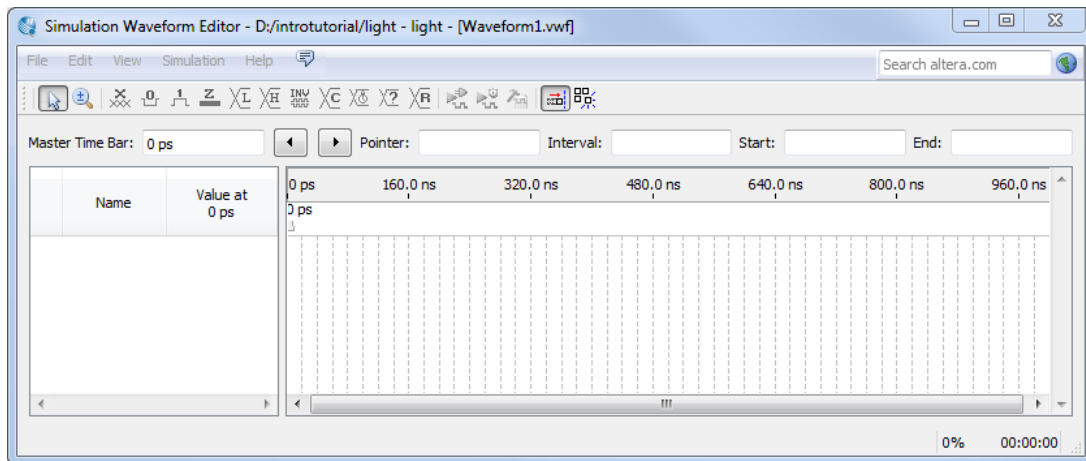
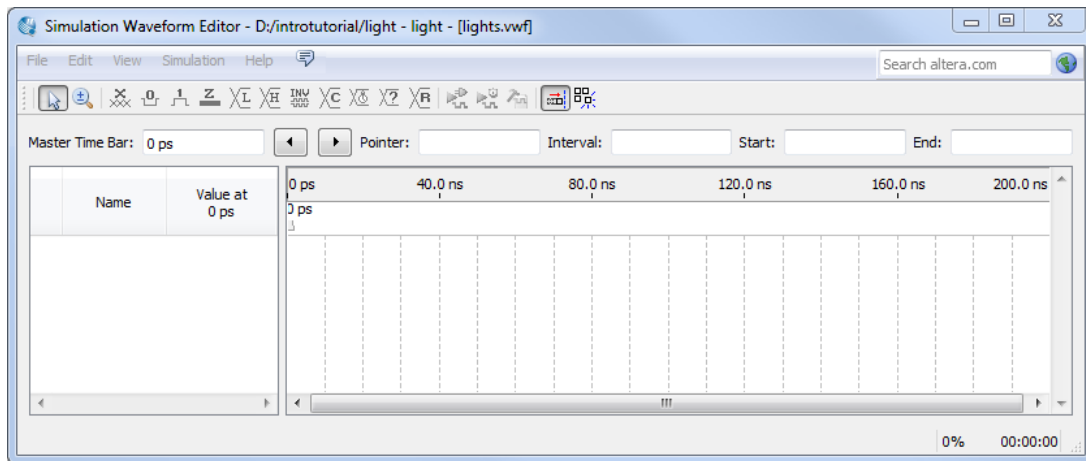

Figure 30. The Waveform Editor window.
Figure 31. The augmented Waveform Editor window.
2. The Simulation Waveform Editor window is depicted in Figure 30. Save the file under the name *light.vwf*; note that this changes the name in the displayed window. Set the desired simulation to run from 0 to 200 ns by selecting Edit > Set End Time and entering 200 ns in the dialog box that pops up. Selecting View > Fit in Window displays the entire simulation range of 0 to 200 ns in the window, as shown in Figure 31. You may wish to resize the window to its maximum size.